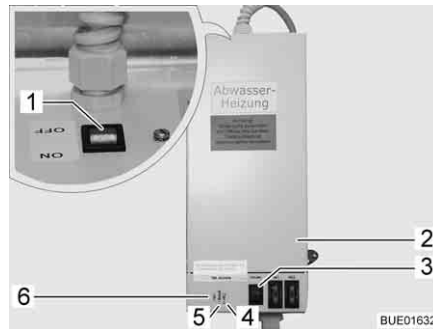

Fig. 234 Transformer with control unit
The 230 V AC/12 V DC transformer (Fig. 234,2) is installed in the wardrobe or in the storage area beneath the seating group, depending on the model.
- The indicator lamp (Fig. 234,5) lights up in green: Regulator in operation.
- Red indicator lamps (Fig. 234,4 and 6) illuminate: Waste water pipes are warmed.
A test button (Fig. 234,3) is integrated in the housing with which the control unit can be operated for a short time. By pressing the test button, the function of the warming unit can be tested, even if the ambient temperature is above 5 °C.
- Turn switch (Fig. 234,1) on the transformer (Fig. 234,2) to "ON".
- Turn switch (Fig. 234,1) on the transformer (Fig. 234,2) to "OFF".